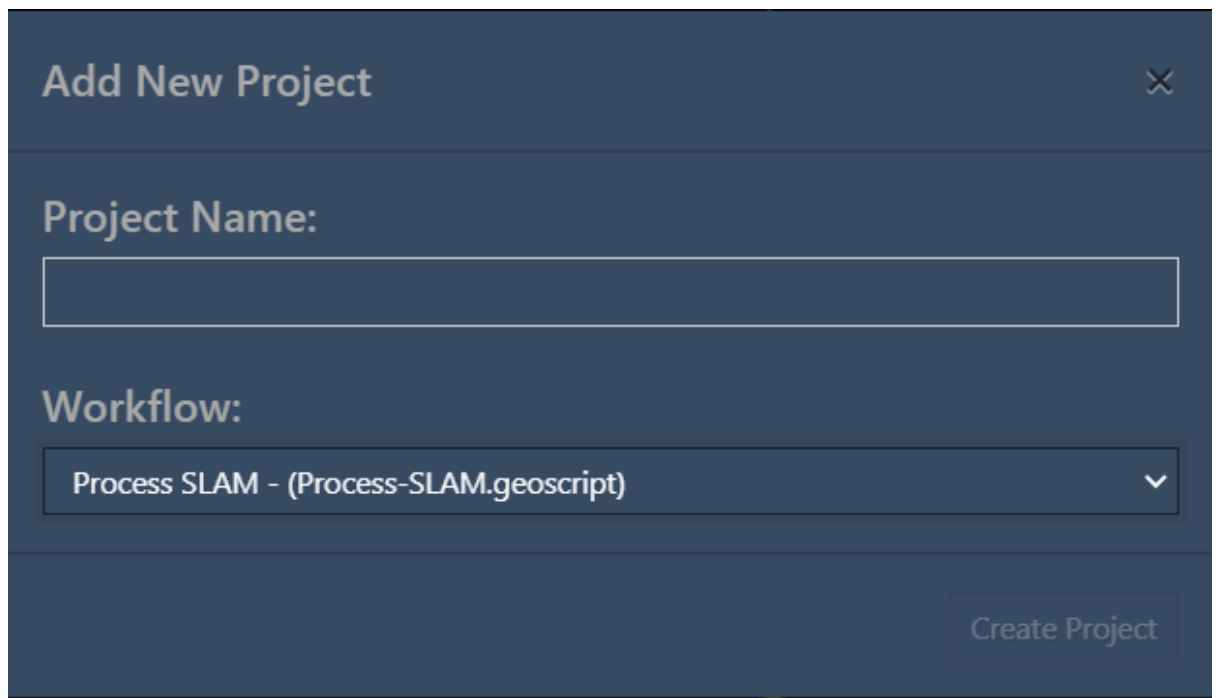

Figure 13 - Add New Project dialogue box
3. This will open the *Add New Project* dialog (Figure 13).